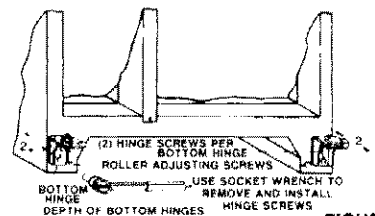

FIGURE 8
11. Mark around the lower hinge brackets (see Figure 8).